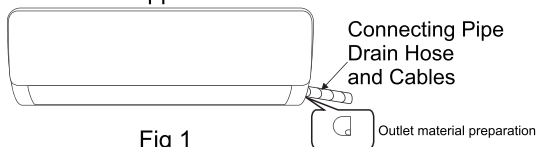
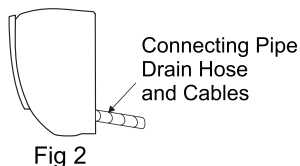

Fig 1
Fig 2
- Depending on the position of the unit, the piping may be routed sideways from the left or the right (Fig 1), or vertically from the back(Fig 2)(depending on the pipe length of the indoor unit). In the case of sideways routing, cut off the outlet cutting stock of the opposite side.